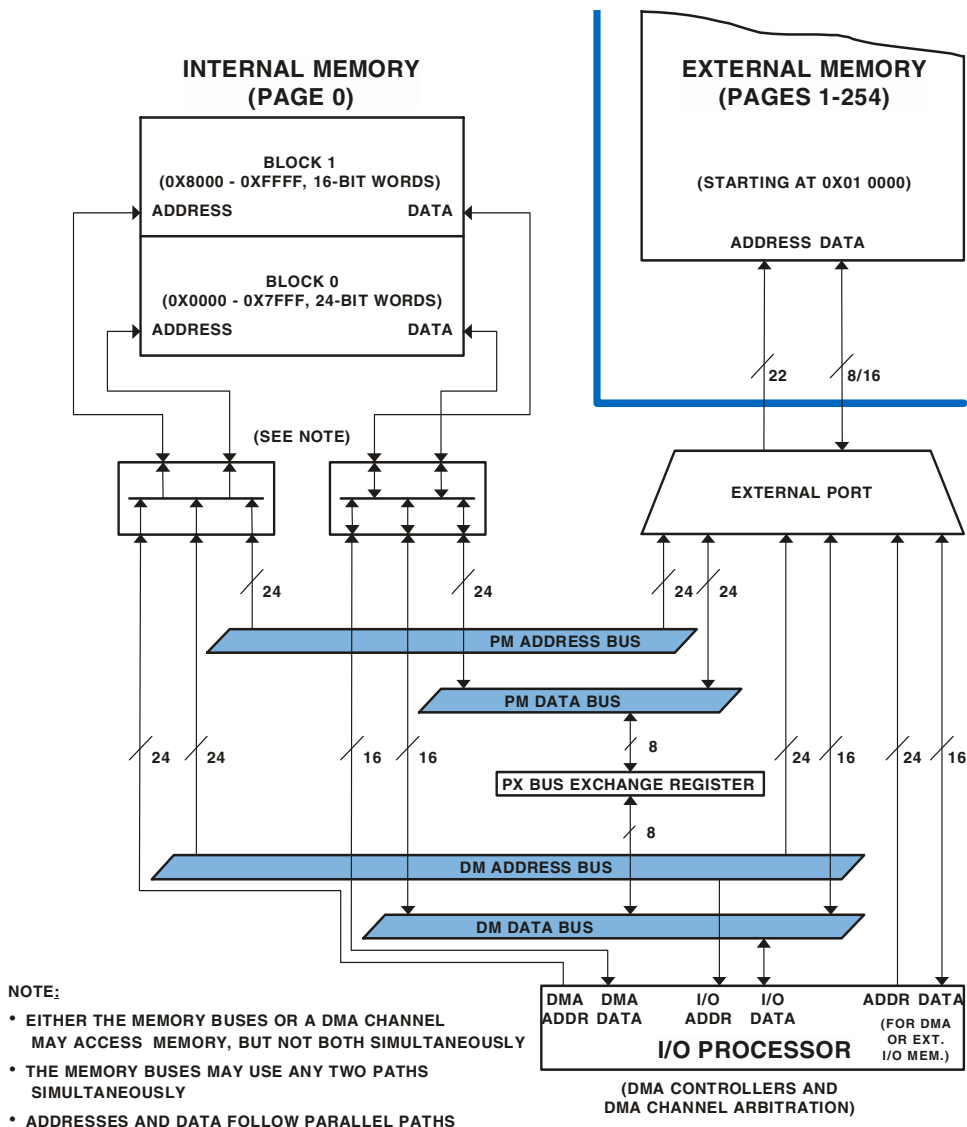

Figure 4-1. Memory and Internal Buses Block Diagram
- The two pieces of data must come from different memory blocks. If the core tries to access two words from the same memory block (over the same bus) for a single instruction, an extra cycle is needed. For more information on how the buses access these blocks, see Figure 4-1 on page 4-5.
As shown in Figure 4-1 on page 4-5, the DSP has two internal buses connected to its internal memory, the Program Memory (PM) bus and Data Memory (DM) bus. The I/O processor—which is the global term for the *DMA controllers, DMA channel arbitration, and peripheral-to-bus connections*—also is connected to the internal memory and external port. The PM bus, DM bus, and I/O processor (for DMAs) share two memory ports; one for each block. Memory accesses from the DSP’s core (compu-
Figure 4-1 on page 4-5 also shows that the PM buses, DM buses, and I/O processor have access to the external bus (pins $DATA15-0$, $ADDR21-0$) through the DSP's external port. The external port provides access to system (off-chip) memory and peripherals. This port also lets the DSP access shared memory if connected in a multi-DSP system. Addresses for the PM and DM buses come from the DSP's program sequencer and Data Address Generators (DAGs). The program sequencer and DAGs supply 24-bit addresses for locations throughout the DSP's memory spaces. The DAGs supply addresses for data reads and writes on both the PM and DM address buses, while the program sequencer uses only the PM address bus for sequencing execution.